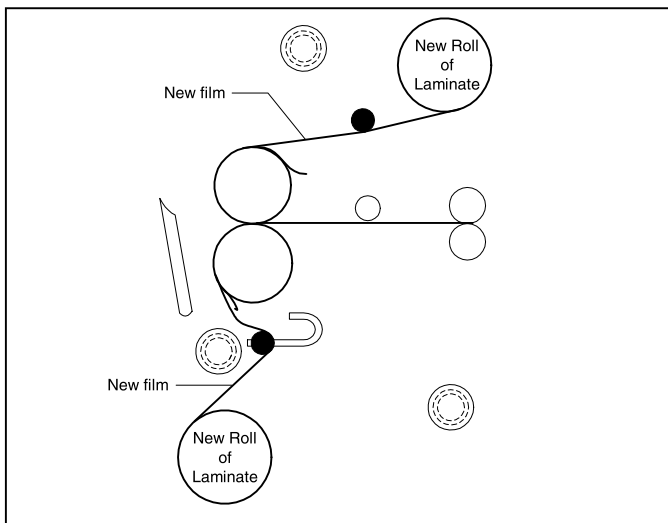

Fig. 34
6. Tack the new film to the existing film on the heat rollers. For PSA film, Pull the release liner up and attach to the rewind tube (Figure 34).